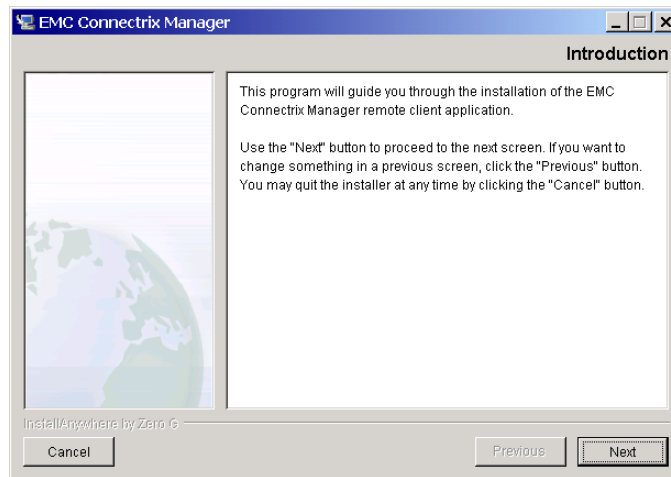

Figure A-7
- If you are installing from the Web, the Connectrix Manager installation file downloads to the PC. When the download is complete, the **Introduction** window in Figure A-7 on page A-7 appears. Go to step 11.
11. On the Connectrix Manager **Introduction** window (Figure A-7), click **Next**.